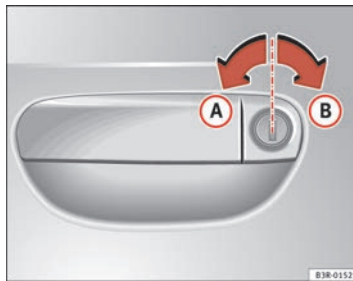

Fig. 70 Turning the key to enable the open and close functions
- To unlock the vehicle, turn the key in the driver door to position **A** ⇒ fig. 70.
- To lock the vehicle, turn the key in the driver door to position **B** ⇒ fig. 70 ⇒ .
To do so, turn the key in the driver door **twice** in quick succession to position **B** ⇒ page 99, fig. 70.